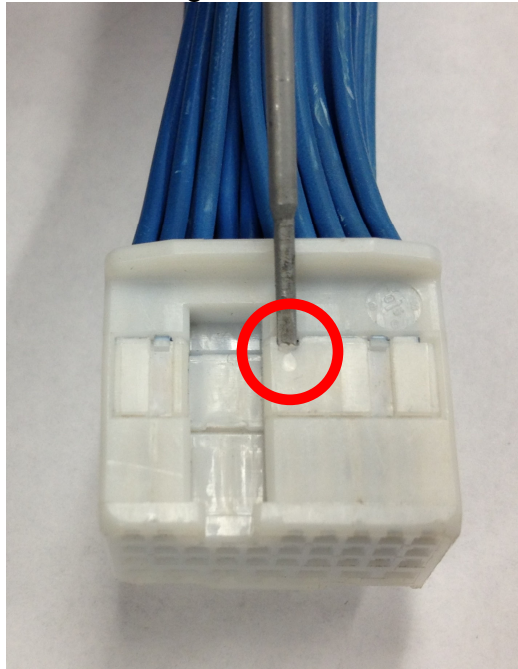

Figure 2: Pry in these areas
1. Locate a small screwdriver (a precision 1mm wide flathead screwdriver is recommended) and carefully pry white plastic retainer (this connector is especially difficult to release, so be patient and don't use excessive force) using the middle slot in the retainer so it disengages vertically about 1mm as shown in figures 2 and 3: